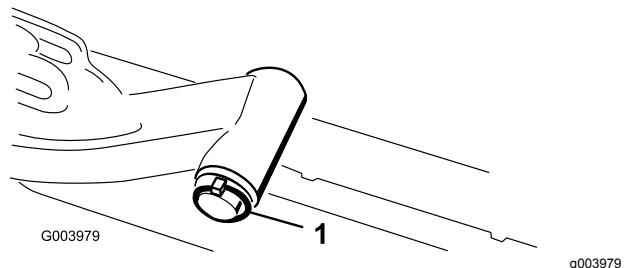

Figure 12
A. Remove the lynch pin and washer securing the lift arm pivot shaft to the lift arm and slide the lift arm pivot shaft out of the lift arm (Figure 12).
C. Insert the lift arm shaft into the lift arm and secure it with the washer and lynch pin (Figure 12).